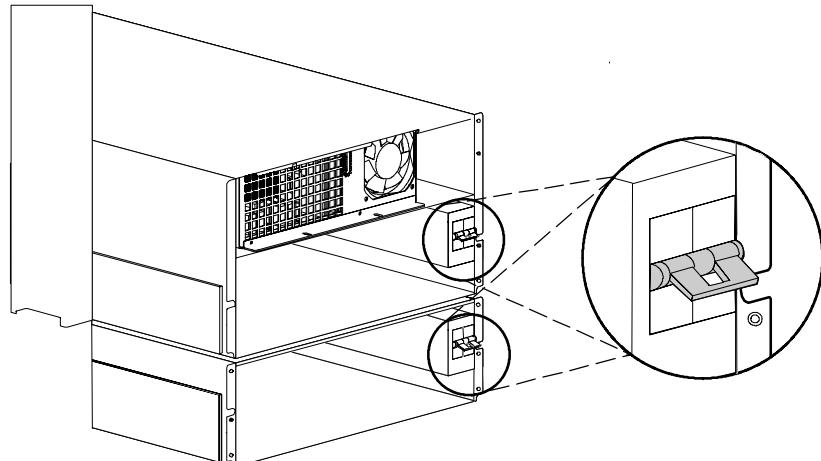

Figure 4. Battery Breakers
1. Verify that the battery breaker on the UPS and all EBMs is in the OFF position (see Figure 4).